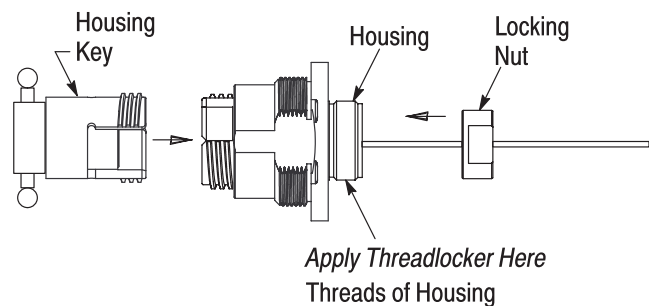

Figure 10
8. Using an applicator swab, apply a *thin film* of the grease around the O-ring on the outside of the EB insert, the front seal on the inside of the housing, and the internal O-ring of the D-hole housing. Remove any excess grease. Refer to Figure 10, Detail A.
9. Align the large diameter end of the D-hole housing with the back (end opposite the front seal) of the housing so that the desired rotational orientation is established (use the flat on the D-hole housing as the reference point). Refer to Figure 10, Detail B. Then slide the D-hole housing onto the housing until it stops. The interference fit of the internal O-ring of the D-hole housing with the housing should prevent the D-hole housing and housing from separating during assembly.
There are 4 rotational orientations for mounting the connector to the panel: top, bottom, left, or right. Aligning one of the keyways located inside the D-hole housing with one of the external keys of the housing will establish the rotational orientation (one keyway is parallel to the flat). Refer to Figure 10, Detail B.
10. Align the internal key (small bar inside) of the housing with the keyway (slot along the outside) of the EB insert, and slide the fixture along with the EB insert assembly into the housing. See Figure 10, Detail C.
13. Slide the wave spring and compression sleeve into the housing. See Figure 10, Detail D.
14. Push-fit the housing key onto the housing. Using the T-handle to hold the connector, apply 2 or 3 drops of the threadlocker to the threads of the housing. See Figure 10, Detail E.